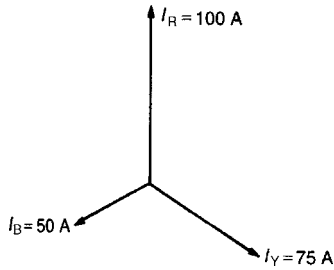

Figure 20.8
- The three line currents are shown in the phasor diagram of Fig. 20.8. Since each load is resistive the currents are in phase with the phase voltages and are hence mutually displaced by 120° . The current in the neutral conductor is given by $I_N = I_R + I_Y + I_B$ phasorially.